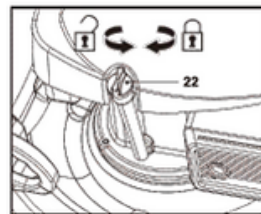

Fig. 8
1. Unscrew and remove the oil filler cap (22) (Fig. 8).